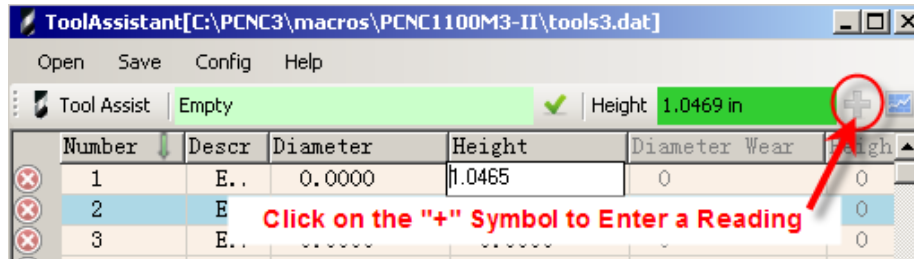

Figure 18. Using the Menu Bar “+” symbol to enter height data.
Once you have set the zero point for the USB Interface there are two ways to enter height data automatically. With the USB Interface plugged in to both the computer and the height gauge either (1) right click on the desired height cell in the tool table and then click on the “+” symbol on the right side of the menu bar as shown in Figure 18, or (2) click on the desired height cell and press the “Acquire Data” button on the USB Interface as shown in Figure 19. The height reading is then automatically entered into the tool table.